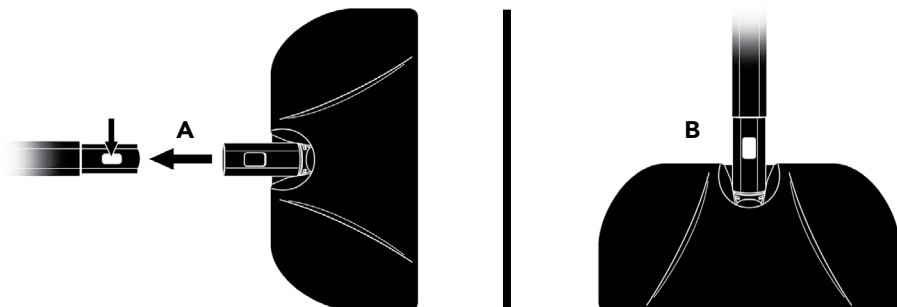

FIGURE 2
2. Press down on gray lock/release button. While continuing to hold button down, slide Mop Head neck onto Extension Wand (FIGURE 2-A). Press on firmly until button snaps through hole (FIGURE 2-B).